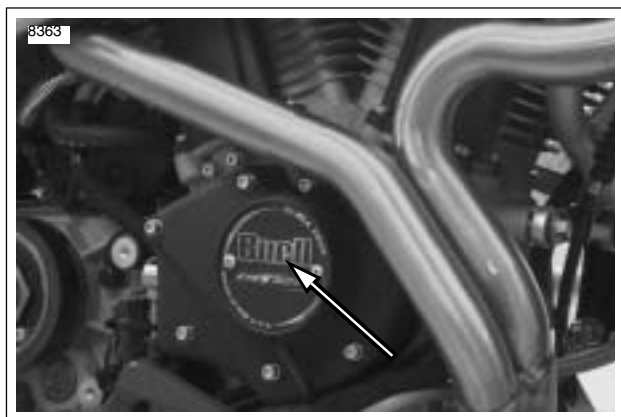

Figure 1-49. Timer Cover
1. See Figure 1-49. Remove timing plate cover.